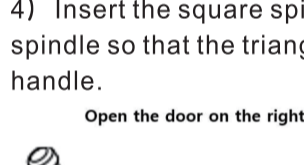

FIG 4A
- 2) Loosen the lock body bolts with a phillips screwdriver (see figure 4A) to remove the handle from the lock body.